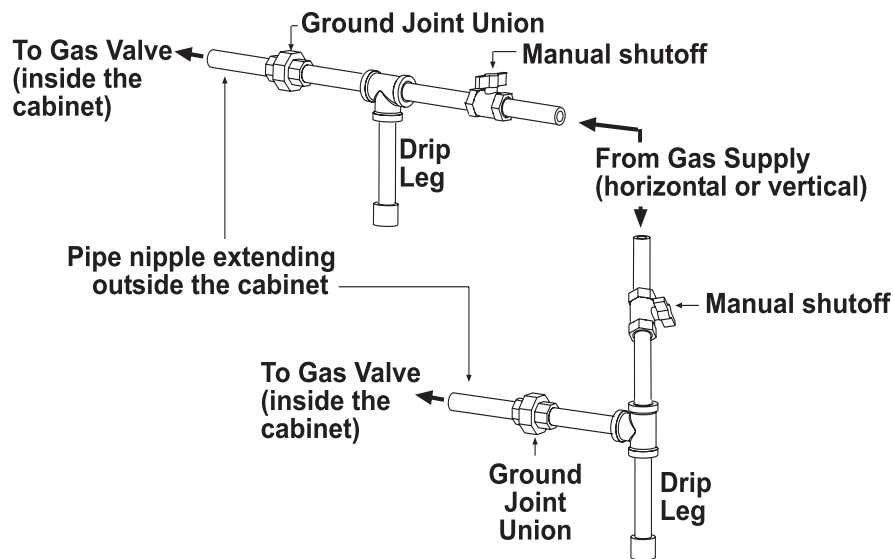

Figure 9. Gas Connections
- Install a ground joint union and manual shutoff valve upstream of the unit control system, as shown in **Figure 9**.
- The 1/8-inch plugged tapping in the manual shutoff valve in **Figure 9** provides connection for a supply line pressure test gauge.
- The National Fuel Gas Code requires the installation of a trap with a minimum 3-inch drip leg (see **Figure 9**). Local codes may require a drip leg longer than 3 inches (typically 6 inches). To permit burner removal, this drip leg must extend beyond the edge of the heater.
- The gas connection is made at the pipe nipple that extends outside the cabinet, as shown in **Figure 9**. Gas connection sizes are listed in **Table 15**.